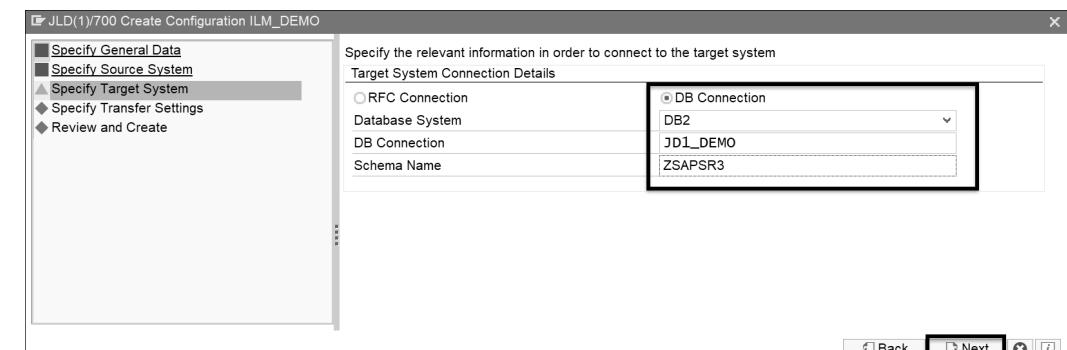

Figure 8.8 Creating a Configuration: Specifying the Target System as an External System
10. If you intend to use any other database supported by SAP Landscape Transformation Replication Server as the target database, complete the fields as follows (see Figure 8.8):